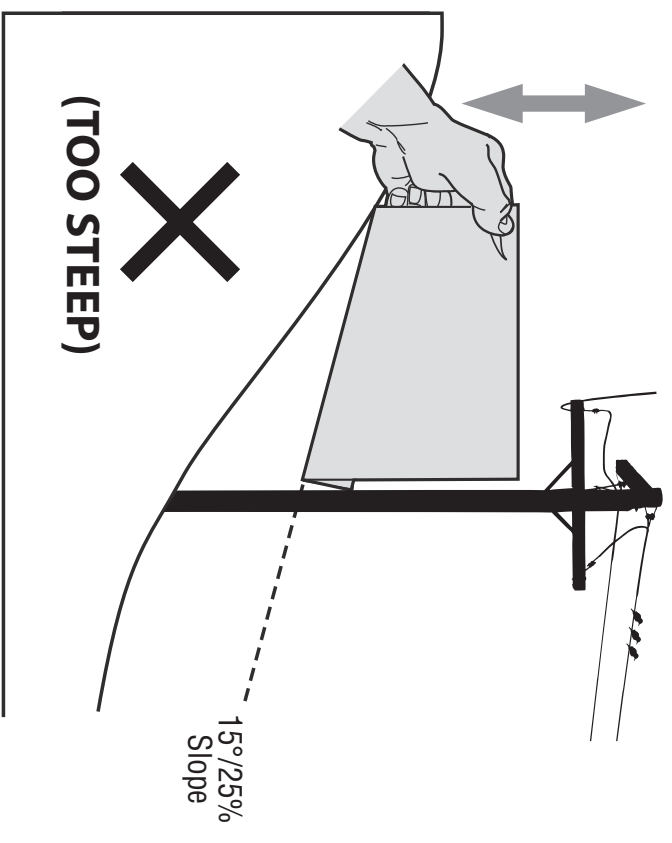

Figure 2
3. Align either side of the slope gauge with the object (See Figure 1 and Figure 2.)
4. Adjust gauge up or down until the left corner touches the slope (See Figure 1 and Figure 2).